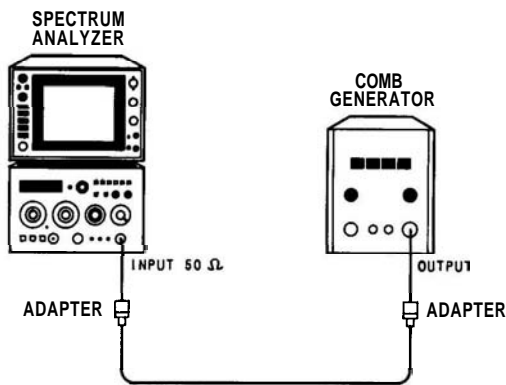

FIGURE 4-5. RESIDUAL FM TEST SETUP
2. Connect OUTPUT of comb generator to spectrum analyzer INPUT 50Ω as shown in Figure 4-5.